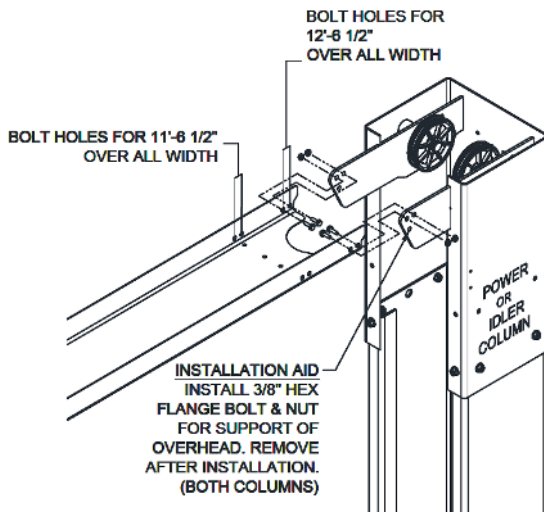

Fig. 8 - Overhead Assembly
1. Before raising overhead into position install 4 (2 per column) hex flange bolts and nuts in middle hole of column extension for temporary support of overhead. Lift overhead assembly up into position and install with 8 (4 per column) 3/8-16 x 3/4" lg hex flange bolts and hex flange nuts per side as shown in **Fig. 8**.